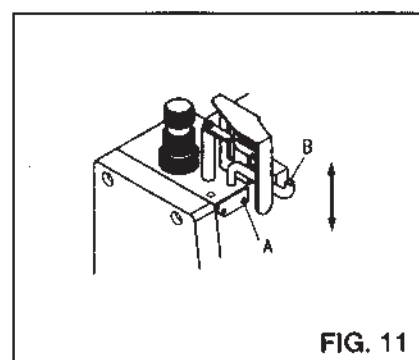

FIG. 11
2. Take-up lever adjustment (Fig.11)